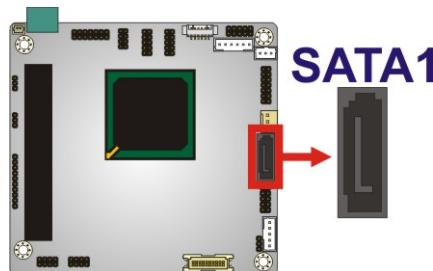

Figure 3-15: SATA Drive Connector Location
**CN Location:** See Figure 3-15